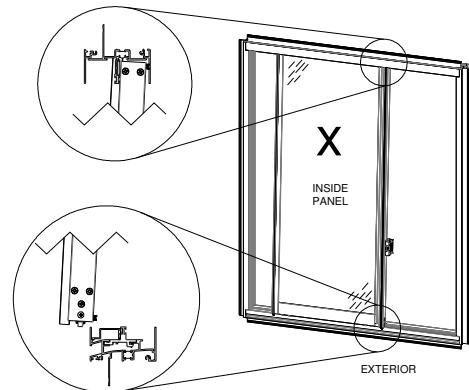

Figure 15:
2. Insert panel (panel located on the track closest to the interior) into the upper head channel. Push up and swing the bottom inward until panel is vertical, then lower panel down onto the track (Figure 15).